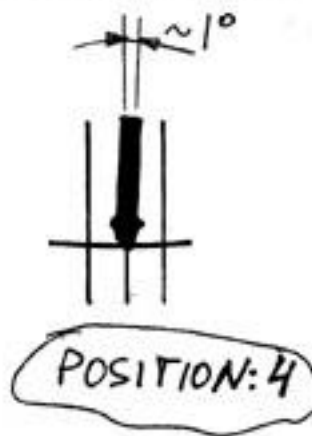

Fig. 5
- ⚡⚡About **1 degree** (clockwise - negative) “**at position 4**” [Fig. 5]